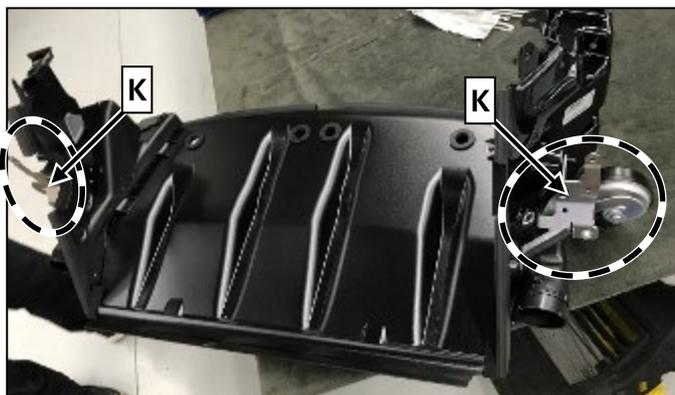

Figure 12
13. Install new right holder and left holder with horns on **new** air ducting A 190 505 36 00 (K, Figure 12).